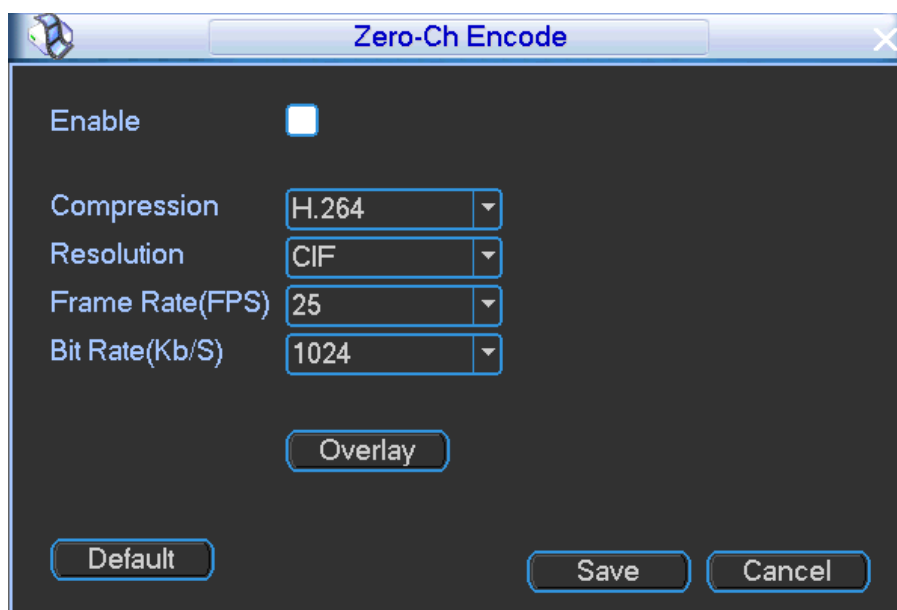

Figure 4-29
Step 2 Click zero-channel encoding Setup button, Enter zero-encoding interface. See Figure 4-29.